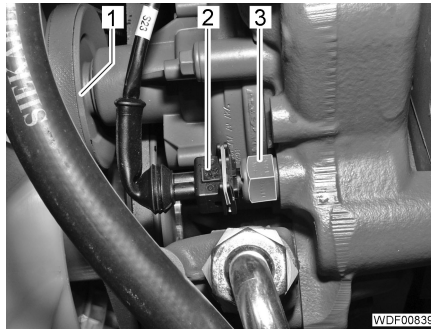

Fig. 552 Temperature sensor
- Remove the plug (Fig. 552,1).
- Unscrew the temperature sensor (Fig. 552,2) and close off the opening in the engine.